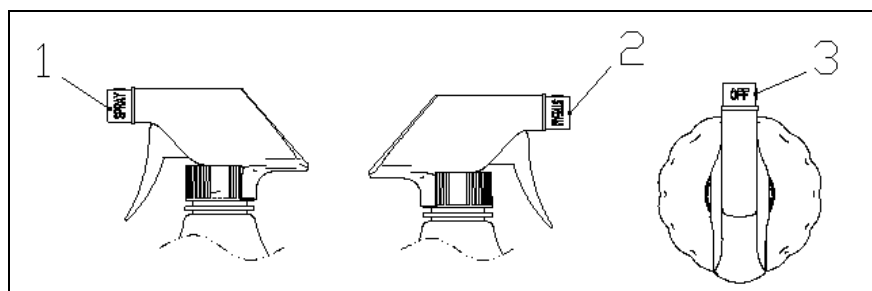

Figure 5
3. Switch the spray nozzle (figure 5 No.1&2) to the upward showing “SPRAY” or “STEAM”. This sprayer includes two spray modes: SPRAY (figure 5 No.1) and STEAM (figure 5 No.2). In
5. Please pour the water out of sprayer after use and switch the spray nozzle to the position of “OFF” upward (figure 5 No.3).